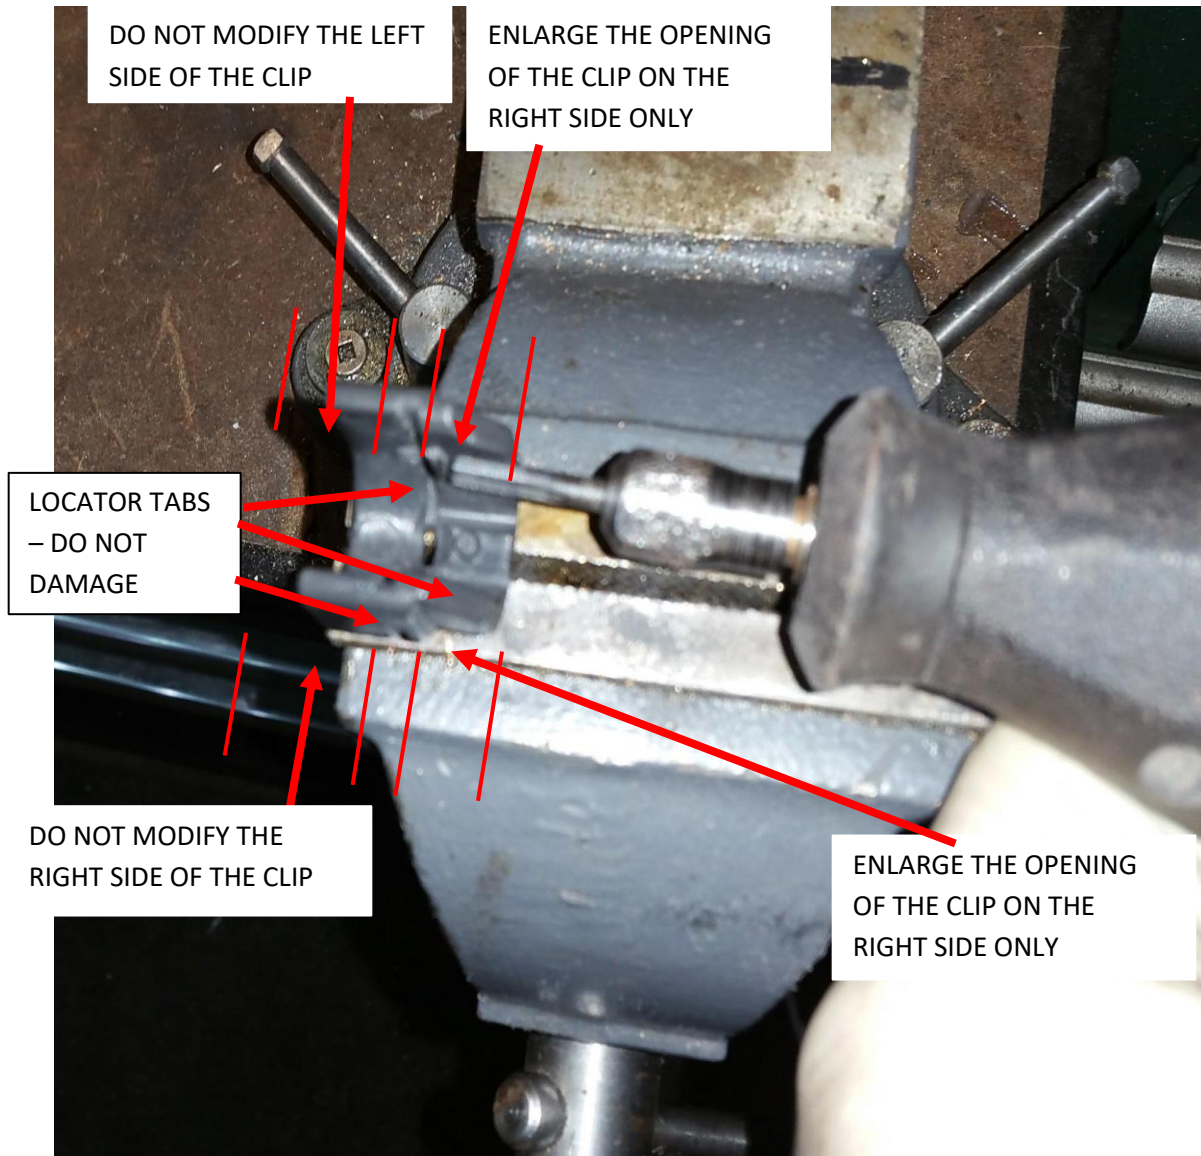

Figure 2.
Step 8: Place the injector locating tab into a vice. Using a Dremel with a small de-burring bit, enlarge the opening as shown in figure 2. Enlarge the sides of the opening of the clip from the top to bottom. Make sure NOT to grind off the side or bottom locator tabs. See figures 2 & 3.